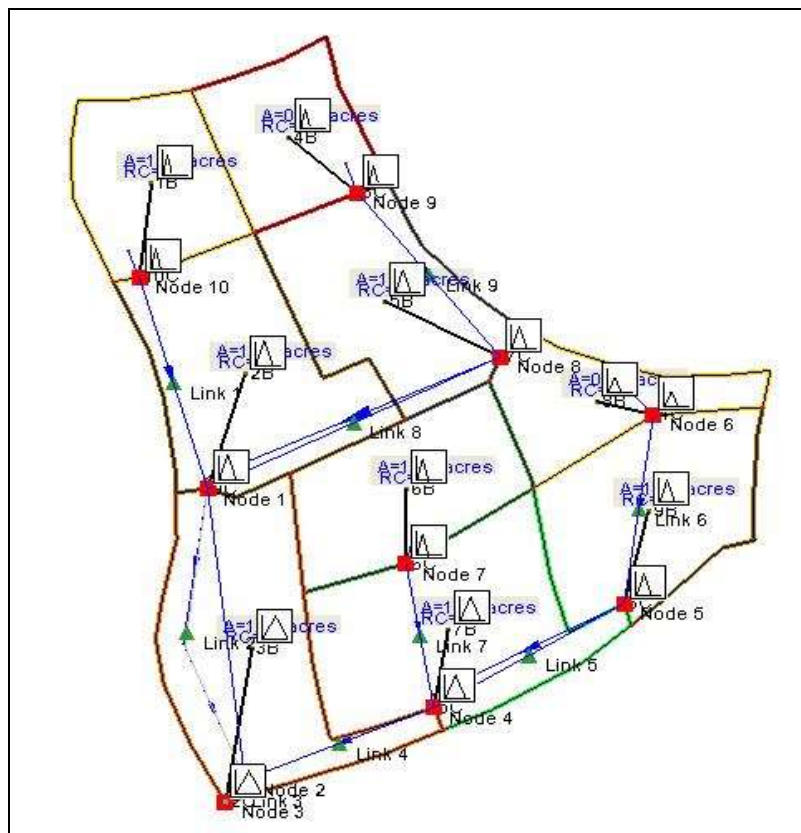

Figure 9 Rational Method hydrographs for SWMM
8. Notice that each basin and outlet icon should show a hydrograph icon next to it as in Figure 9.